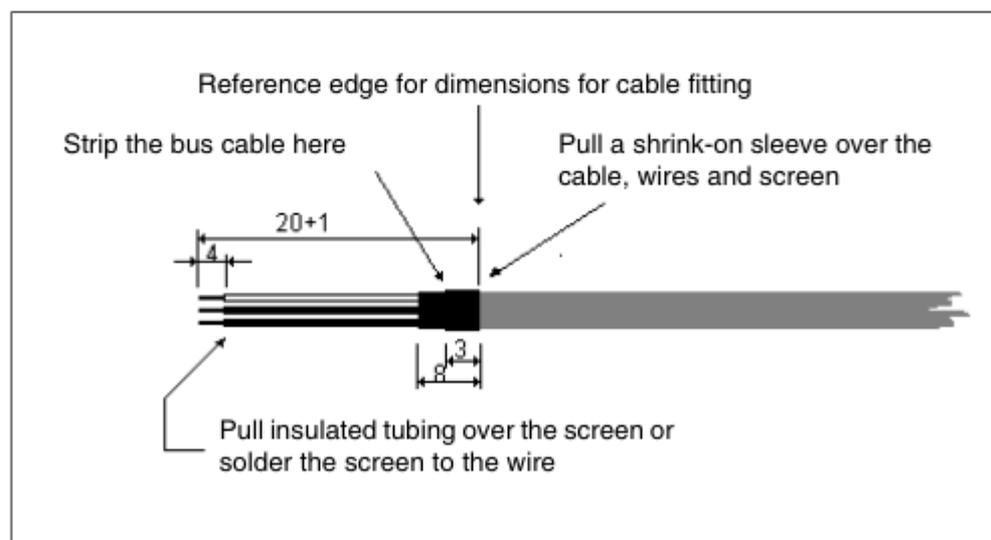

Figure 36 Preparing the cable
2. Strip the insulation from the bus cable according to Figure 36, page 91.